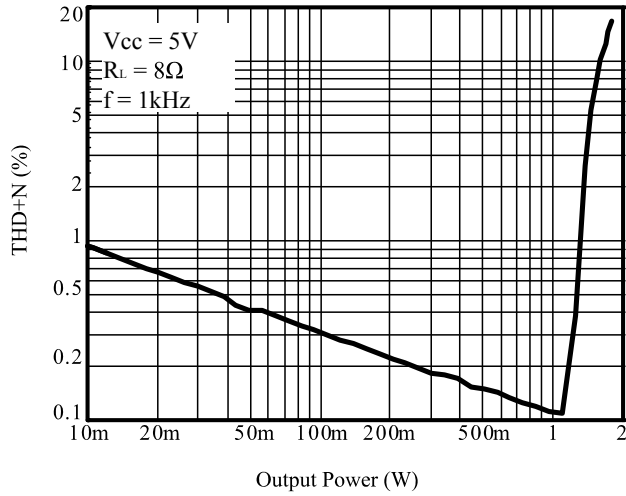

Figure 2 THD+N vs. Output Power
As shown in Figure 2, the SN4088D consists of two pairs of operational amplifiers, forming a two-channel (channel A and channel B) stereo amplifier. External feedback resistors  $R_2$ ,  $R_4$  and input resistors  $R_1$  and  $R_3$  set the closed-loop gain of Amp A (-out) and Amp B (-out) whereas two internal 20k $\Omega$  resistors set Amp A's (+out) and Amp B's (+out) gain at 1. The SN4088D drives a load, such speaker, connected between the two amplifier outputs, -OUTA and +OUTA.
Figure 2 shows that Amp A's (-out) output serves as Amp A's (+out) input. This results in both amplifiers producing signals identical in magnitude, but 180° out of phase. Taking advantage of this phase difference, a load is placed between -OUTA and +OUTA and driven differentially (commonly referred to as "bridge mode"). This results in a differential gain of
Amplifying the lowest audio frequencies requires high value input coupling capacitors ( $C_1$  and  $C_2$ ) in Figure 2. A high value capacitor can be expensive and may compromise space efficiency in portable designs. In many cases, however, the speakers used in portable systems, whether internal or external, have little ability to reproduce signals below 150 Hz. Applications using speakers with this limited frequency response reap little improvement by using large input capacitor.
As shown in Figure 2, the input resistors ( $R_1$  and  $R_3$ ) and the input capacitors ( $C_1$  and  $C_2$ ) produce a  $-3$ dB high pass filter cutoff frequency that is found using Equation (7).
As an example when using a speaker with a low frequency limit of 150Hz,  $C_1$ , using Equation (7) is 0.053 $\mu$ F. The 0.33 $\mu$ F  $C_1$  shown in Figure 2 allows the SN4088D to drive high efficiency, full range speaker whose response extends below 30Hz.